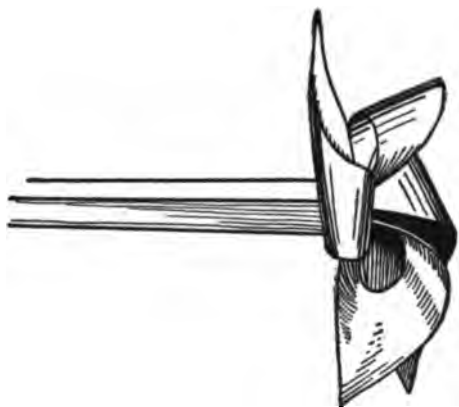

FIG. 1.—The Paper Pinwheel is the Simplest Pinwheel to Make.
**The Paper Pinwheel** shown in Fig. 1 is one of the best whirlers ever devised. A slight forward thrust of the stick handle upon